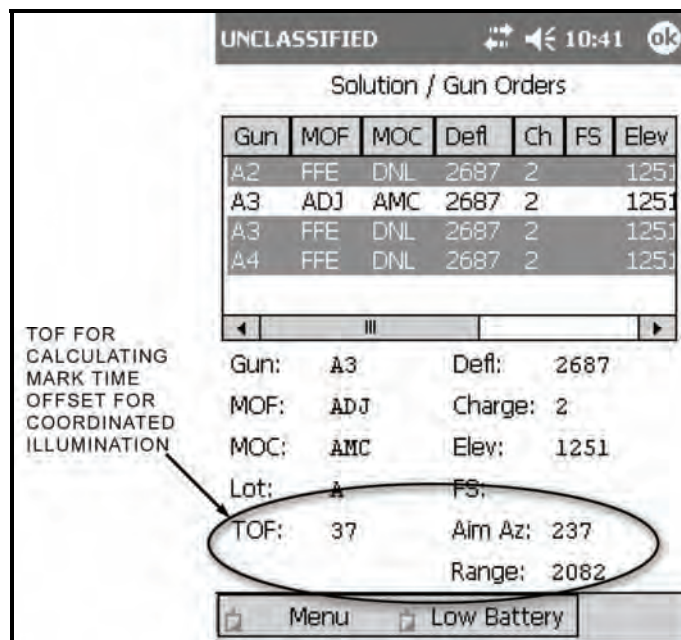

Figure 18-53. Coordinated Illumination: High-Explosive Solution screen.
- (3) Confirm that all mission data is correct, and select Use All.
- (4) The Solution/Gun Orders screen (Figure 18-53) displays.